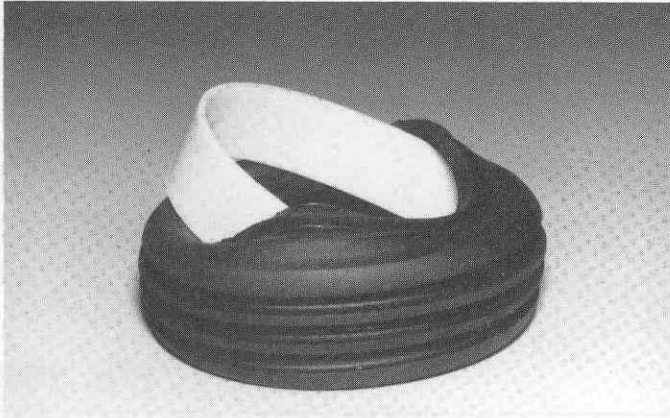

Fig. 190
□ **Fig. 190** Take the front wheels and tires out of the bag. We want to put the large plastic ring inside the tire as shown. Work the ring into the tire until it is seated evenly. Tires vary a lot. Some will go on quite easily, and some will be quite difficult to install. On the tough ones, soapy water, like dish washing soap, will help the rubber to slip easier and will make mounting the tires much easier. Be sure to rinse off the soap and then dry the tires thoroughly.